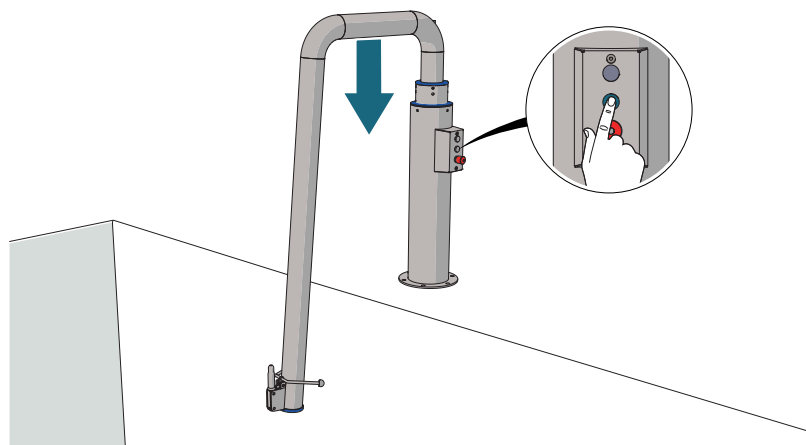

Figure 4 - Operating the pool lift downwards
1. Press and hold the control button with the arrow pointing down (see figure 4).